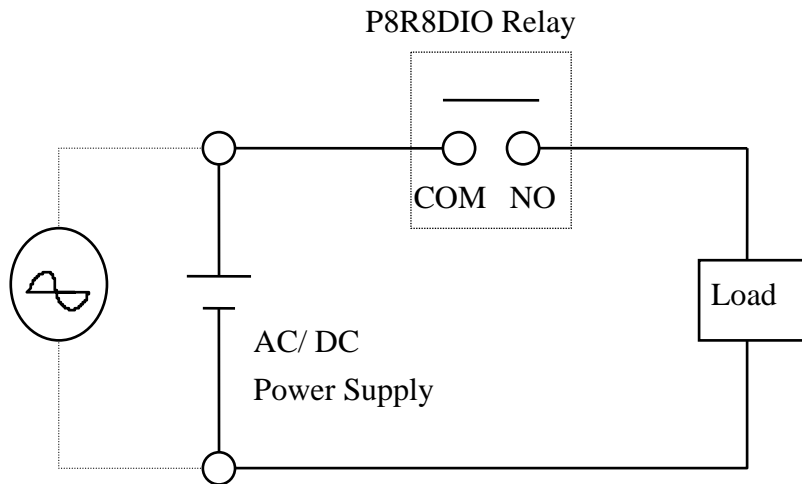

Figure 3-1.
- **Basic Circuitry: (Current Rating < 0.3 A), Refer to Figure 3-1.**